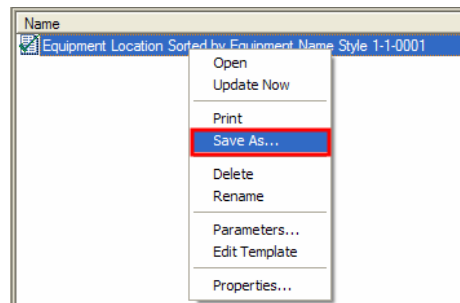

Figure 17: Save As Command
- In the **Drawings and Reports** task, locate the report **Equipment Location Sorted by Equipment Name Style 1-1-0001** that was created in the previous lab. Right-click the report and select **Save As** from the right-click menu, as shown in Figure 17.